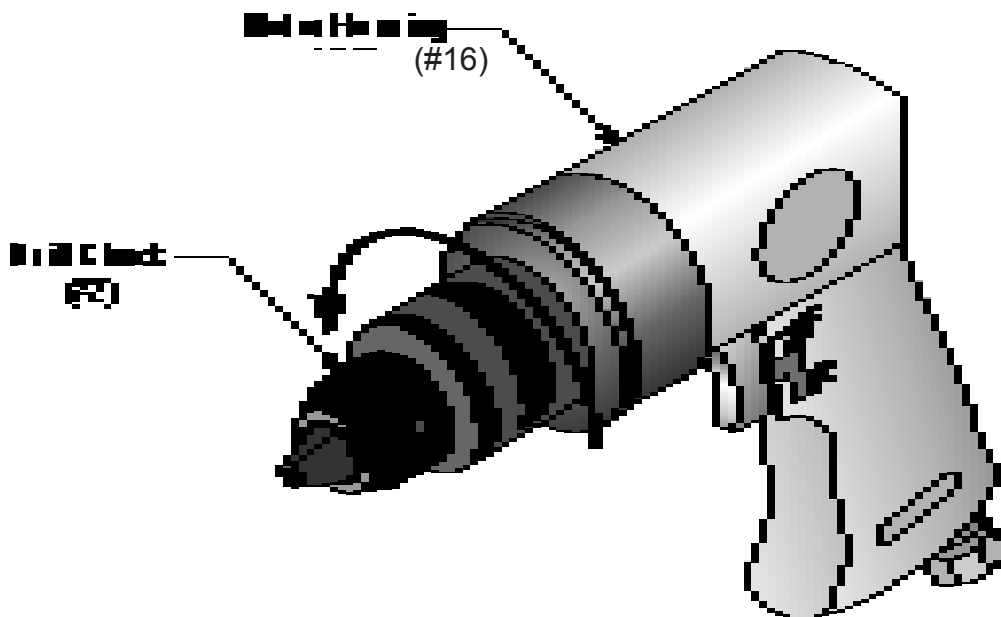

Figure 1 — Opening the Jaws
Step 2: Open up the Jaws of the Drill by turning the DRILL CHUCK (#2) as shown in Figure 1.